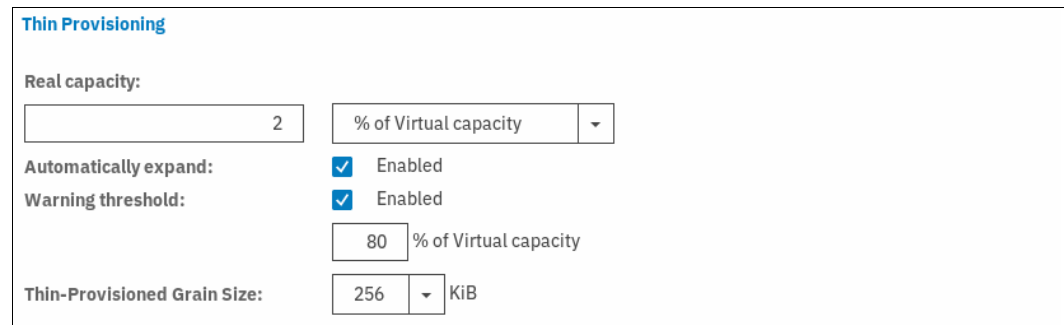

Figure 6-23 Thin Provisioning
- In the **Thin Provisioning** subsection, enter the real and virtual capacity, expansion criteria, and grain size, as shown in Figure 6-23.